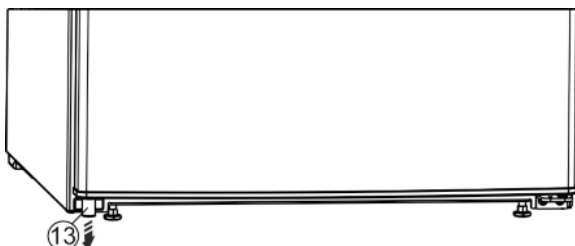

Fig. 5
- Remove the spacer Fig. 5 (13) from under the left-hand side of the door.